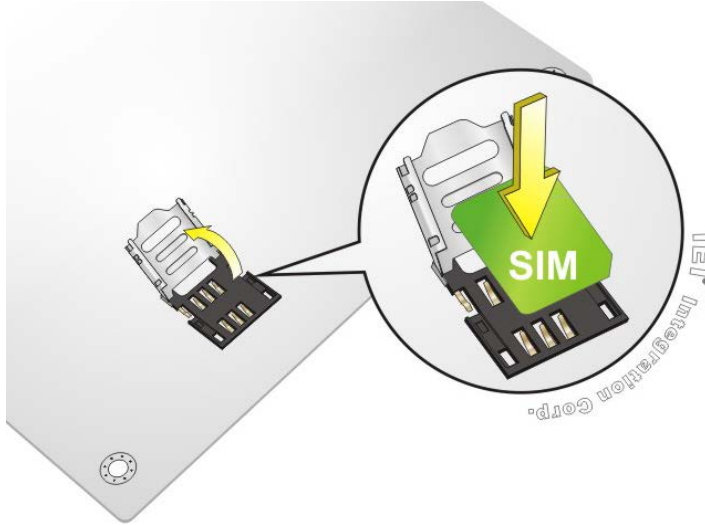

Figure 4-10: SIM Card Installation
Step 3: Open the slot cover and place a SIM card onto the slot. The cut mark on the corner should be facing away from the slot as shown in **Figure 4-10**.